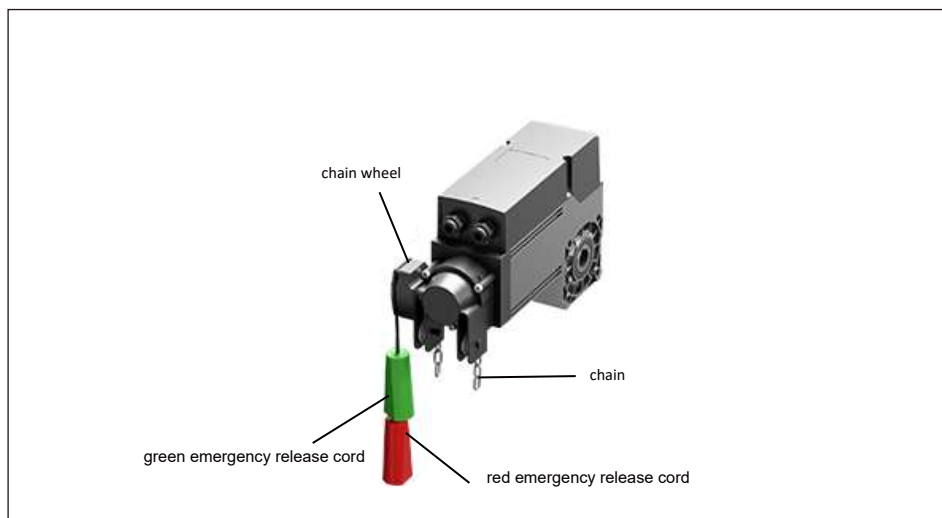

Fig. 4
- The emergency release is activated when the chain wheel has been moved by pulling down the red emergency release cord in Fig. 4.
Make sure that the door can be opened and closed without any problems by pulling on the chain in Fig. 4